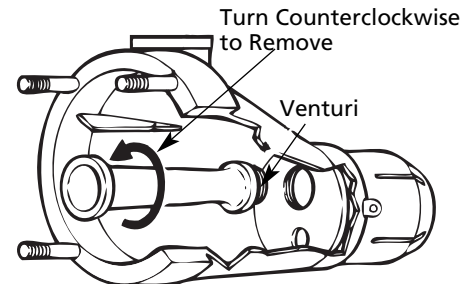

Figure 17 – Unscrew Venturi
1. Unscrew venturi and remove it (See Figure 17).